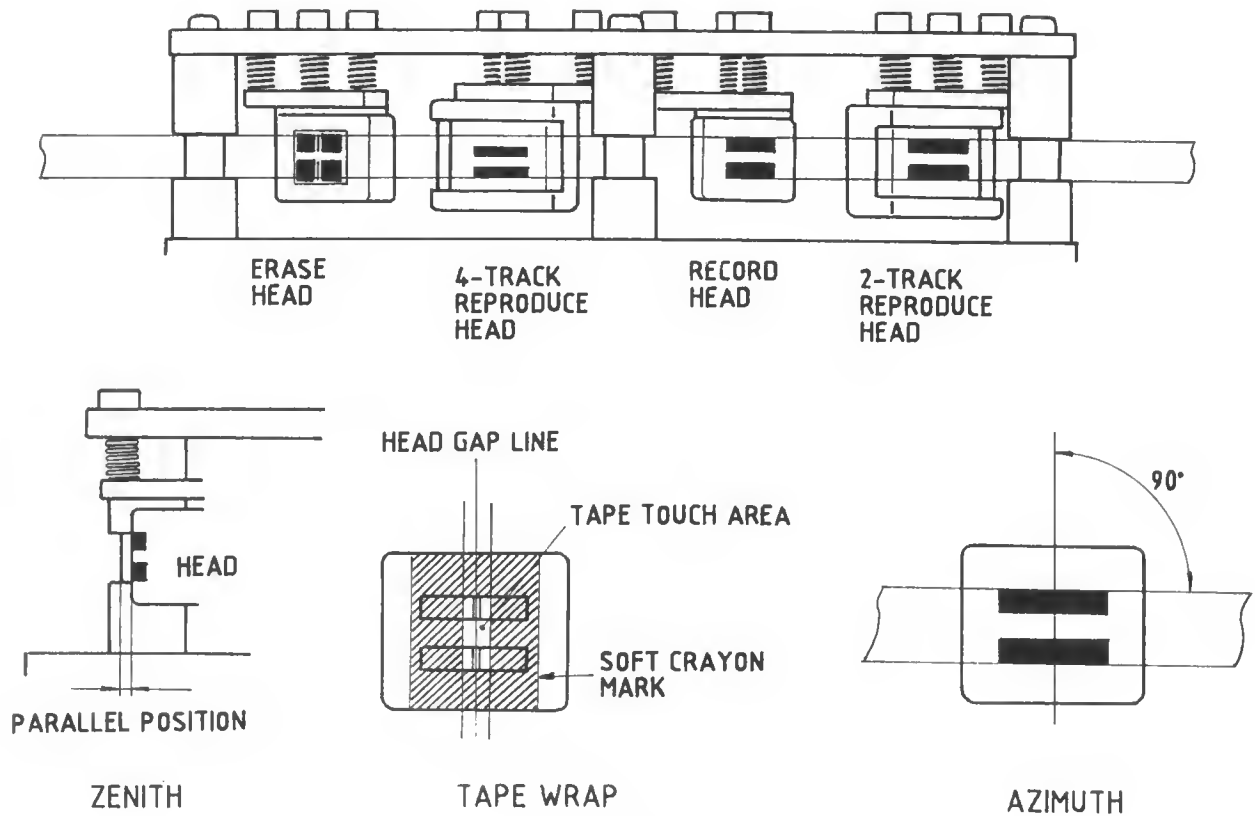

Fig. 5-7
- (2) When replacing a whole head stack, take out three screws marked M in the figure.
- (3) When replacing only a head unit, take out three screws marked Tn, An and Hn of the head.
- (4) When new head unit or new head stack is mounted, first roughly adjust the height of the head with the tape thread as illustrated in Fig. 5-7. To adjust the height turn three screws by same amount.
- (5) Then paint the head face with a soft crayon or marking pen, run the tape for about ten seconds, and check the trace of the tape. If head adjustment is correct, the shape of tape touch area on the head should be rectangular and should be equal shape to the head gap line as illustrated Fig. 5-7.
- (6) To have those results, adjust and check the zenith, tape wrap and azimuth of the head with five screws as explained on the Table 5-2.